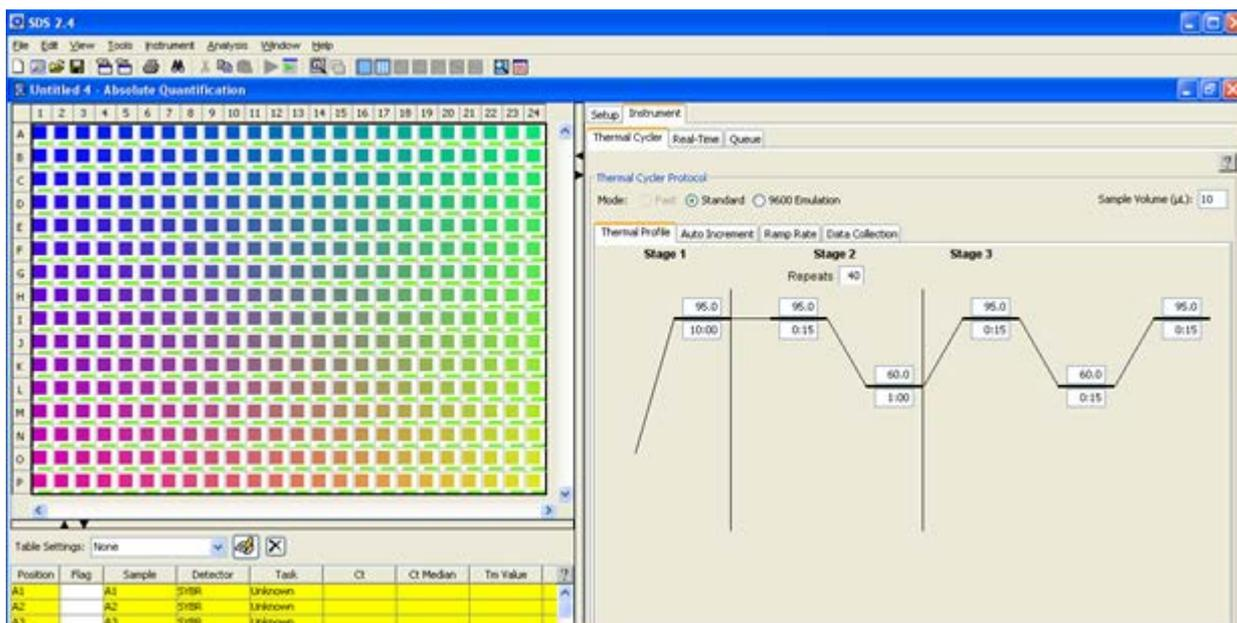

Figure 2. Plate setup — setting thermal profile.
- To set up a sample plate (See Figure 2), click the square button in the upper left corner of the full plate layout panel (between the letter "A" and "1") to select all wells. Once selected, the lower full plate table panel will be highlighted in yellow and the box next to "SYBR" on the left panel will be checked.